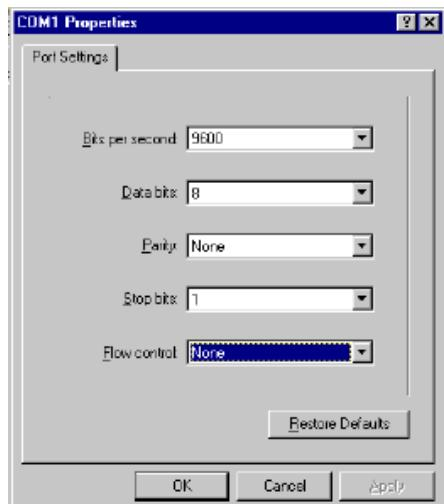

Figure 5-3. “COM1 Properties” Screen
6. Press the “OK” button. The “COM1 Properties” screen displays (Figure 5-3).